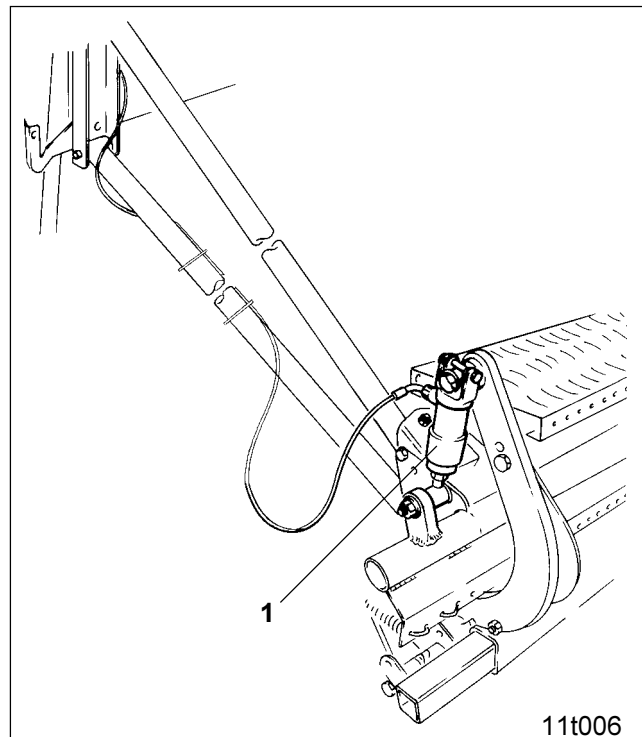
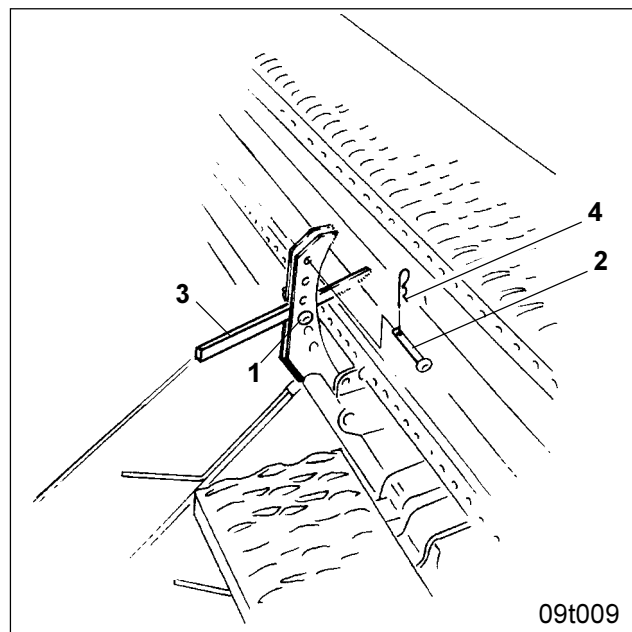

Fig. 25.9
Fig. 25.10
When changing from normal soils to heavy soils or vice versa, the coulter pressure is readjusted by a hydraulic ram (Fig. 25.9/1).
Two pins (Fig. 25.10/1 and Fig. 25.10/2) are placed as a stop for the lever (Fig. 25.10/3) in the setting segment. The lever (Fig. 25.10/3) which is actuated by the hydraulic ram (Fig. 25.9/1) rests on the pin I (Fig. 25.10/1) when the hydraulic ram is without pressure and it rests on pin II (Fig. 25.10/2) when the hydraulic ram has been pressurised.
- Relieve the hydraulic ram (Fig. 25.9/1) from pressure.
- insert pin II (Fig. 25.10/2) into a hole in the setting segment above the lever (Fig. 25.10/3) and secure by a clip pin (Fig. 25.10/4).
- Pressurise hydraulic ram (Fig. 25.9/1).
- Insert pin I (Fig. 25.10/1) into a hole in the setting segment below the lever (Fig. 25.10/3) and secure by a clip pin (Fig. 25.10/4).